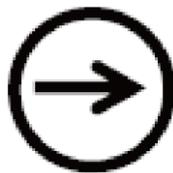

Figure 4.3 Emergency Stop Safety Disconnect symbol
3. It must be equipped with a disconnect function so that when the contacts are closed, pressing the button disconnects the closed contacts. This function symbol is shown in Figure 4.3.